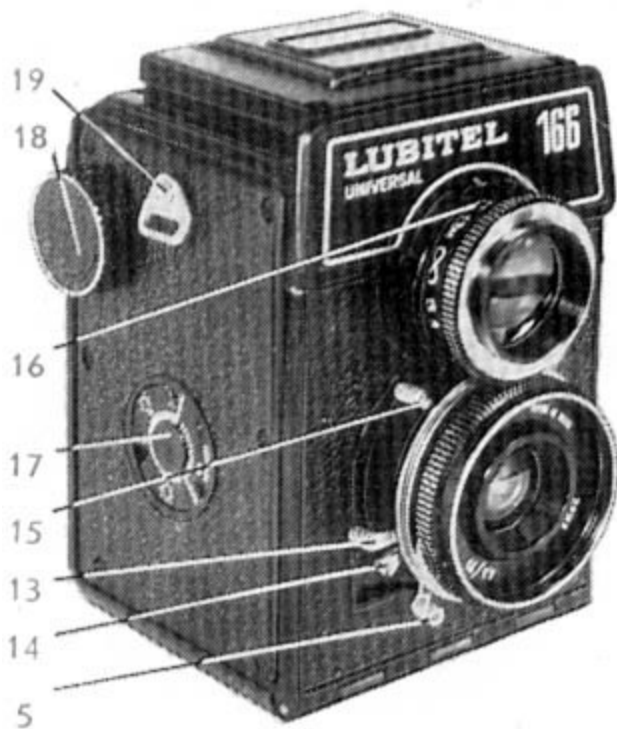
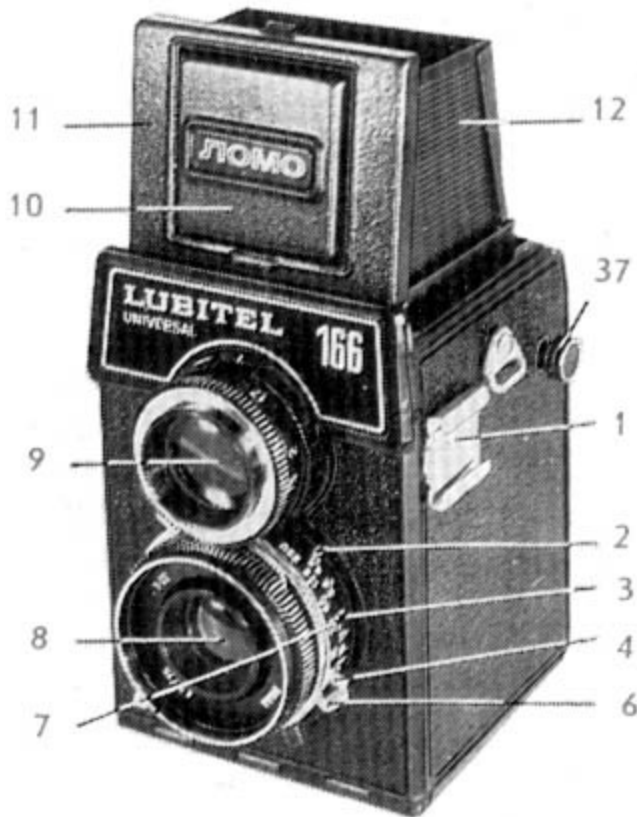

Fig. 3
Fig. 2
Selected exposure time is set by rotating the adjusting ring dog (5) [Fig.3] to coincide the ring edge index with required exposure value.
To activate the self-timer it is necessary to set the selected automatic exposure, cock the shutter, turn the self-timer lever (6) [Fig.2] fully downward and to press the release lever (15) [Fig.3]. In 7 - 15 seconds the shutter will operate and the picture will be taken.